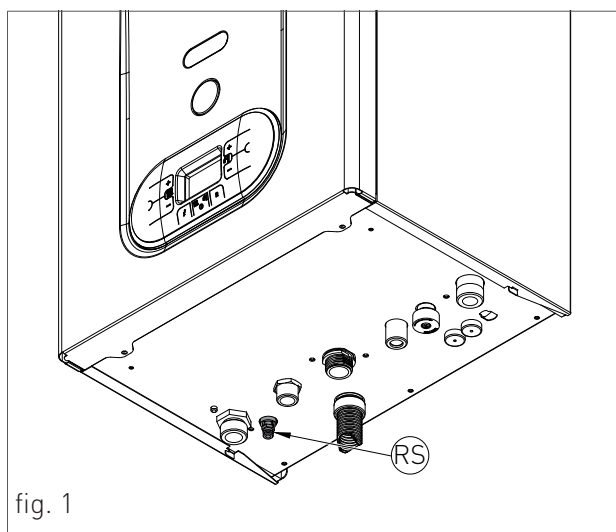

fig. 1
- › remove the fastening screws (1 - fig.1) placed on the lower edge of the front panel;
- › grab the front panel from the bottom and remove it pulling it to yourself and then upwards (see fig. 1).
- › remove the fastening screws (2 - fig.1) placed on the front edge of the side panel;
- › grab the bottom of the panel and remove it by moving it sideways and then pulling it upwards (see fig. 1).
- › Grab at the same time the support brackets of the control panel (fig. 1) loosening them and turn the panel downwards;
- › unscrew the four fastening screws 1 - fig. 1;
- › turn the discharge tap of the system 'RS' (fig. 1);